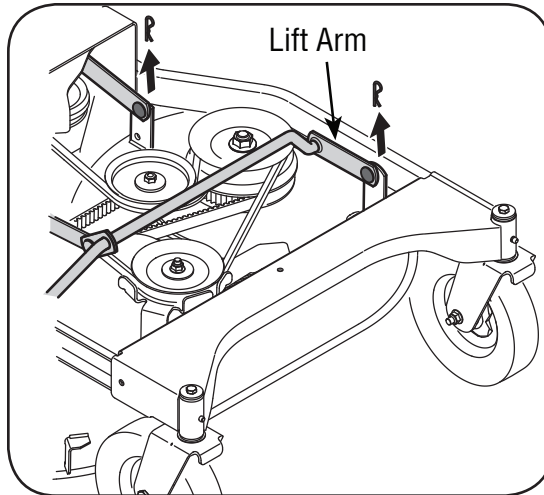

Figure 5-11
9. Carefully remove the front deck supports from the deck lift arms. See Figure 5-11.